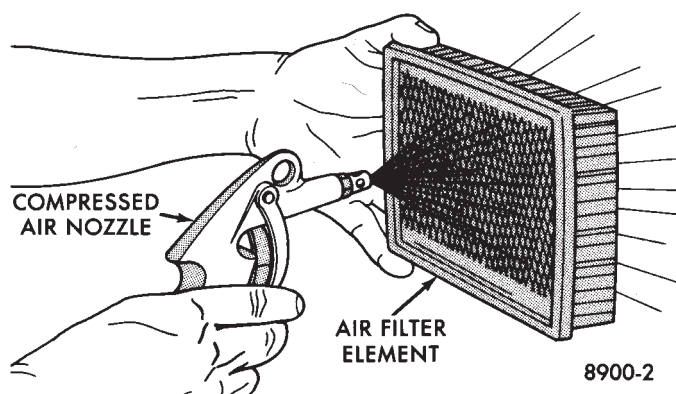

Fig. 12 Cleaning Air Filter Element
- (3) Remove paper air filter element from air cleaner body. Hold a shop light on throttle body side of element. Inspect air intake side of element. If light is visible through element, blow dust from element (Fig. 12) and reuse. If element is saturated with oil or light is not visible, replace filter. If element is saturated with oil, perform crankcase ventilation system tests.